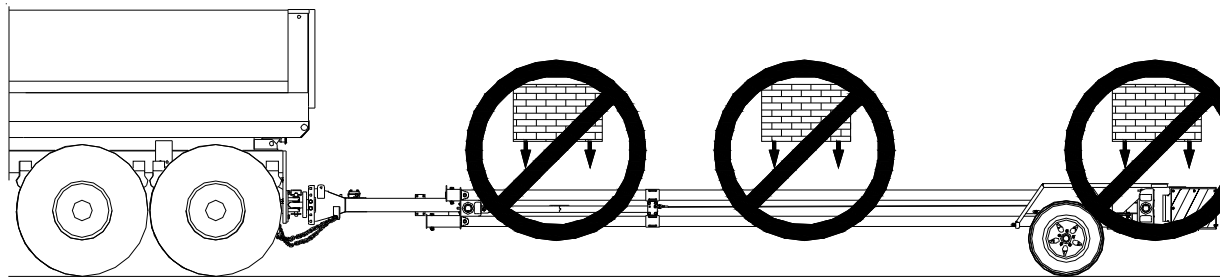

Figure 5
4. The Vorteq TMA is designed to safely absorb a crash, and to support its own weight. Do not sit, stand or lean on any part of the TMA. **Do not drag the TMA or place anything on its top: damage may result.** (See Figures 5 & 6).